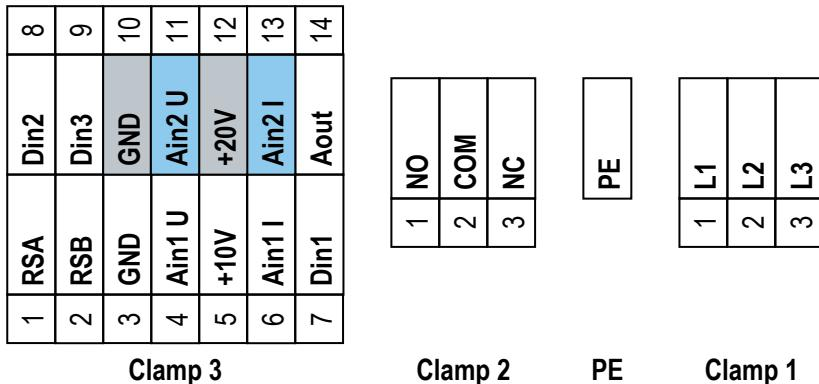

Fig. 24: Terminal strip, ports for specification of actual value with sensor control
To connect the sensor, the terminal strip (KL) is provided with the two analogue ports Ain2 U and Ain2 I (see Fig. 24). Alternatively, terminals Ain1 U and Ain1 I can also be selected. Terminal 12 serves as a power supply with a voltage of +20 VDC.
are directly connected to the voltage source and deliver a 4 to 20mA signal. The GND connection is established via an internal 100Ω resistor (load) in the fan. On the terminal strip shown in Fig. 24 such a sensor would be connected to Ain2 I and +20V.
On the terminal strip shown in Fig. 24 such a sensor would be connected to Ain2 I and Ain2 U, +20V and GND.